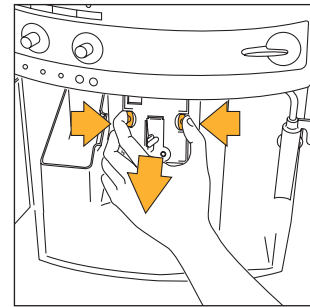

Fig. 29
- press the two red release buttons on the infuser sideways and towards the centre (Fig. 29) and pull it out;